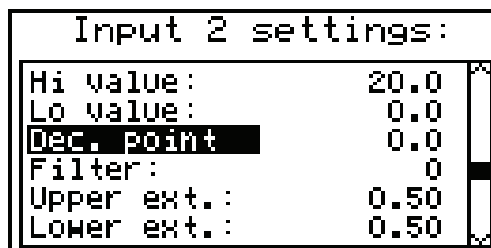

Fig. 7.21. "Inputs settings" menu (part 2)
- "Upper ext."** - parameter defining the allowable range of input voltages (Fig. 7.21).